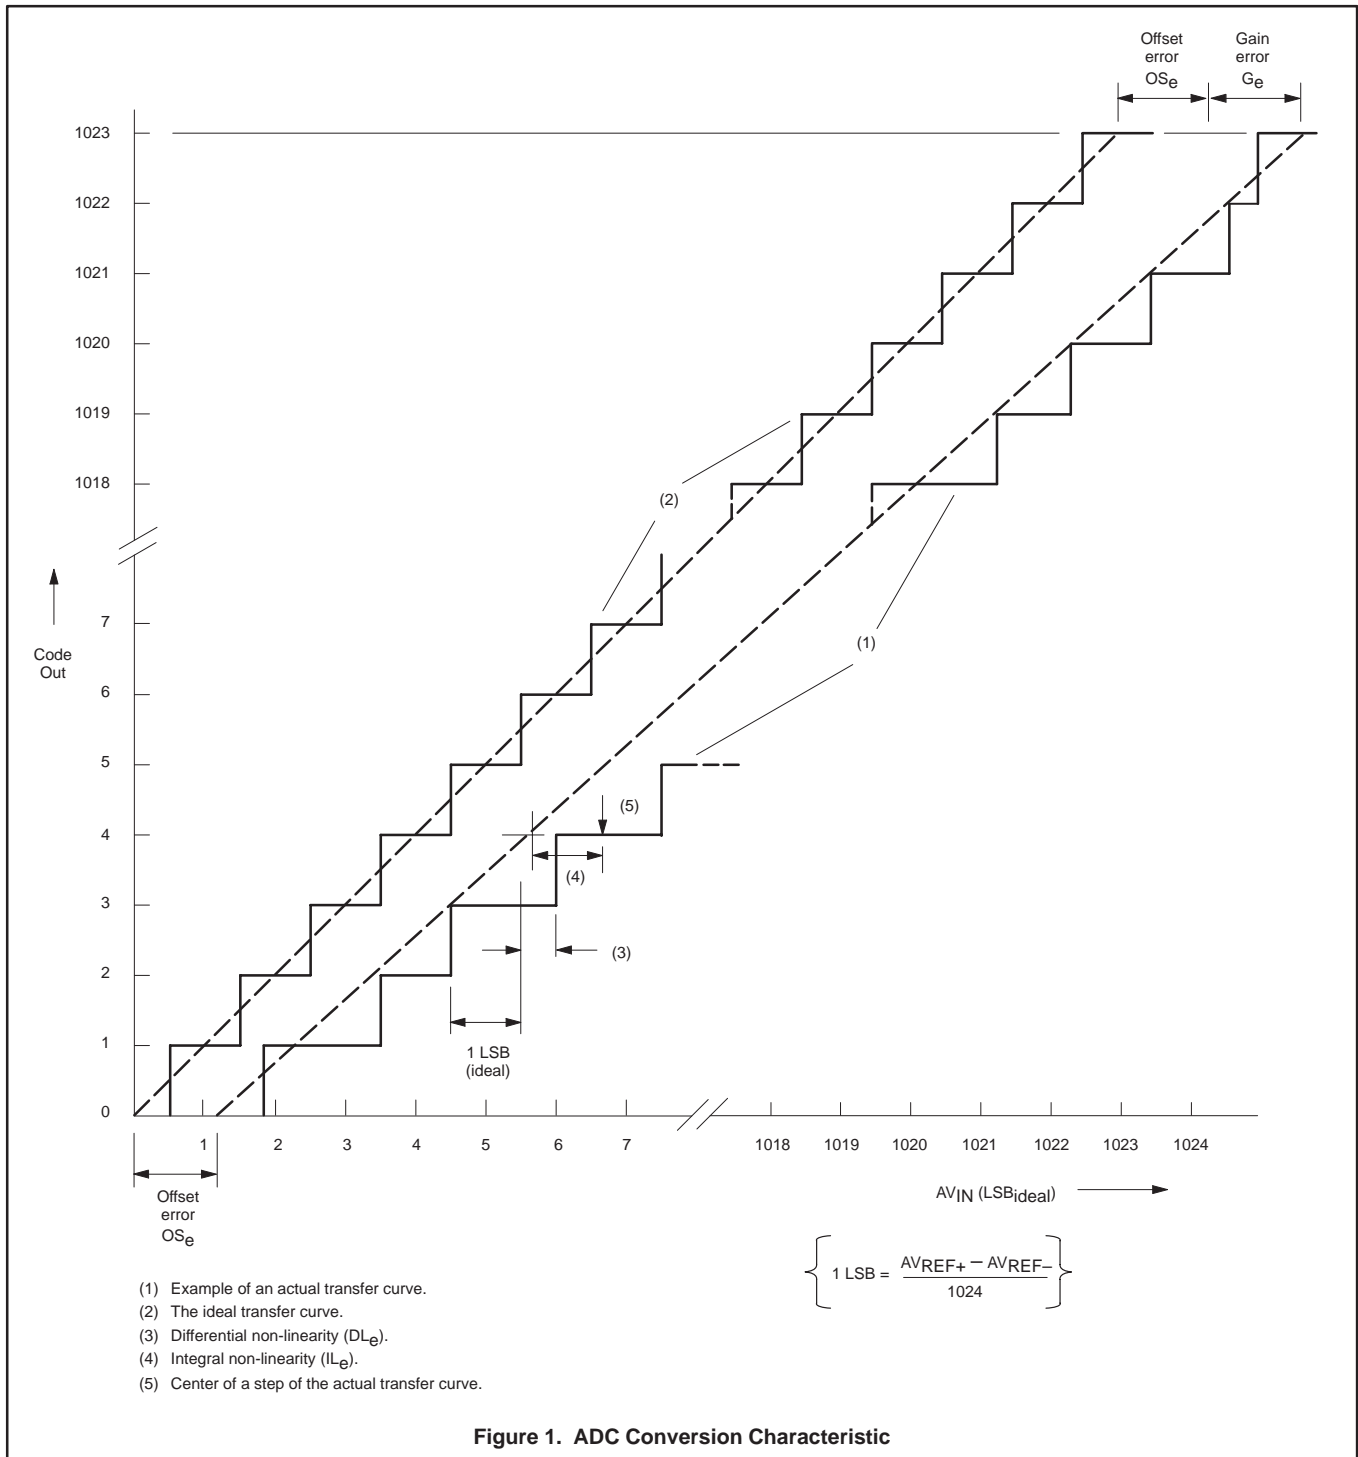

Figure 1. ADC Conversion Characteristic
- The differential non-linearity (DL_e) is the difference between the actual step width and the ideal step width. (See Figure 1.)
- 13. The integral non-linearity (IL_{θ}) is the peak difference between the center of the steps of the actual and the ideal transfer curve after appropriate adjustment of gain and offset error. (See Figure 1.)
- 14. The offset error (OS_{θ}) is the absolute difference between the straight line which fits the actual transfer curve (after removing gain error), and a straight line which fits the ideal transfer curve. (See Figure 1.)
- 15. The gain error (G_{θ}) is the relative difference in percent between the straight line fitting the actual transfer curve (after removing offset error), and the straight line which fits the ideal transfer curve. (See Figure 1.)